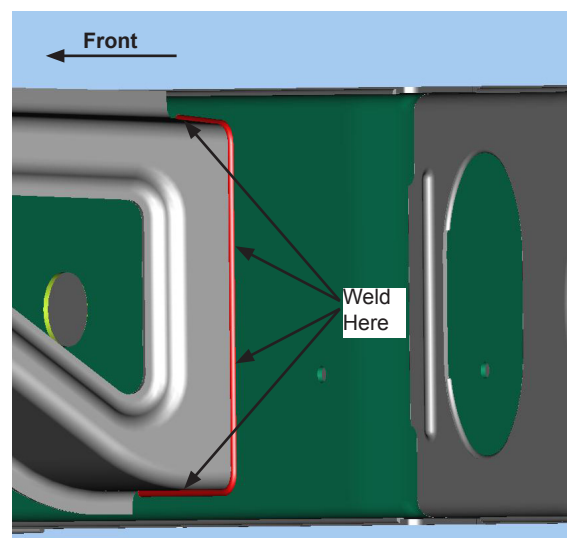

Figure 4
5. Fully weld the Crossmember along the front vertical edge and across the top and bottom as shown. Figure 4.